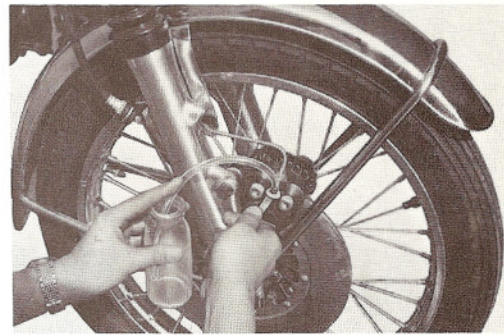

Fig. 4-1-2
- 1) Attach the bleeder tube to the bleeder valve after removing the bleeder valve dust cap as shown in Fig. 4-1-2. A transparent tube is useful in finding air bubble expelled from the system.